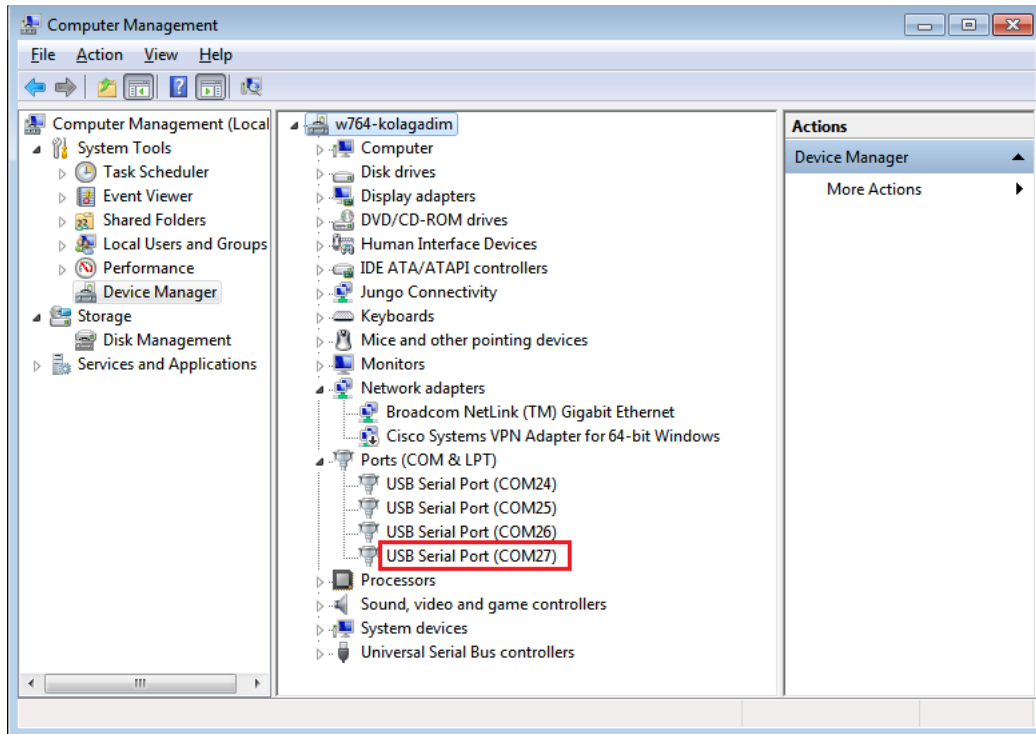

Figure 5 • USB to UART Bridge Drivers
3. From the Device Manager window, identify the COM port that is assigned to the SmartFusion2 UART interface. Figure 5 shows four COM ports with COM27 highlighted. Make a note of the highest numbered COM port to run demo. The COM port numbers vary from system to system.